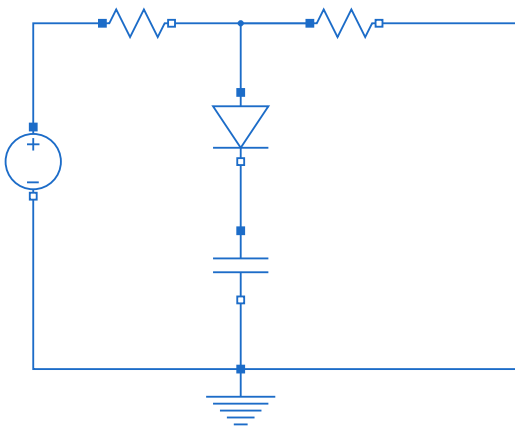

Figure 1: Electrical circuit
Consider the electrical circuit shown in Fig. 1. The circuit has a sinusoidal source, two resistors, a diode, a capacitor and the ground. The purpose of this exercise is to learn some basic Modelica concepts by creating the model of this electrical circuit from scratch. You will learn how to create connectors, partial models and models and how to re-use your code.
Below you can find a more detailed procedure in order to get a simulation model of the electrical circuit. Summarised, you will start by making a new library (package). In that package you will define an electrical connector in which the current and voltage are declared as variable. Then, you will create a positive and negative pin by extending the general electrical connector. Subsequently, the positive and negative connector can be used to define a partial model that describes any electrical component with two connectors. This partial model can be extended in a next step to create customised electrical components (resistor, capacitor, ...). Once you have made these models, you can build and simulate the electrical circuit shown in Fig. 1.
8. Create a model called *Circuit* in which you include all these components as shown in Fig. 1.